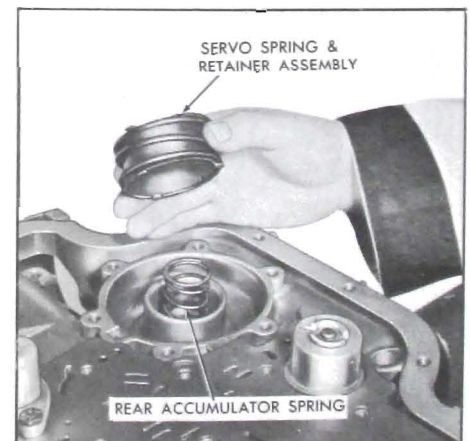

Figure 5-517
3. Remove the servo accumulator springs. See Figure 5-517.